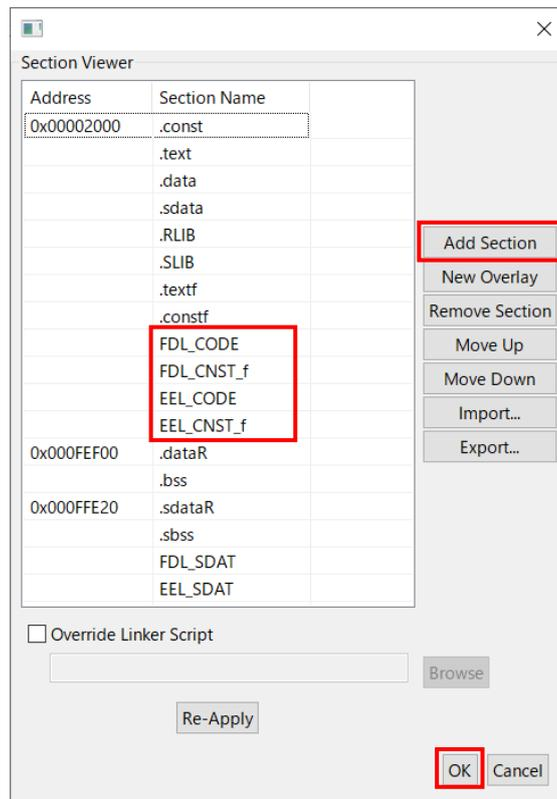
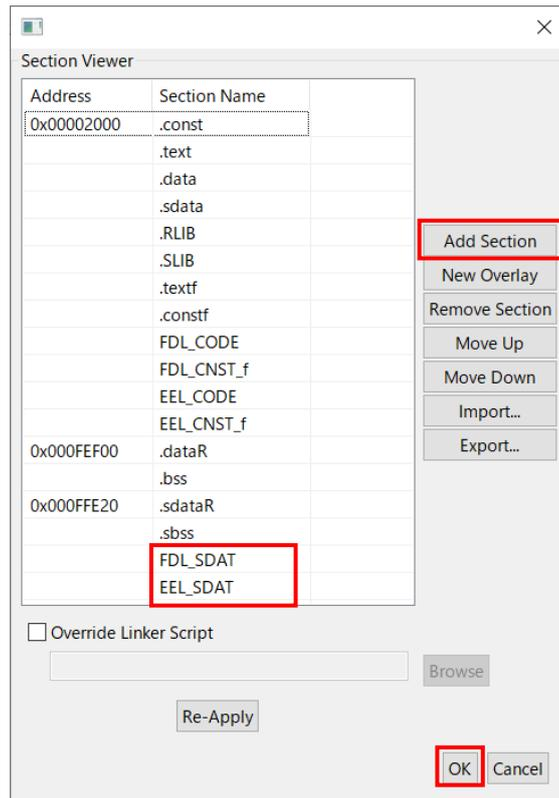

Figure 8-5. Example of Section Settings for EEPROM Emulation Library when Using e² studio (ROM Area)
Figure 8-6. Example of Section Settings for EEPROM Emulation Library when Using e² studio (RAM Area)
- Setting of the section items on e² studio inputs in the "Properties" window. Select "C/C++ Build" [Setting] - "Linker" [Section]. And set section items on the displayed screen. Remove a check mark to [Layout sections automatically(-auto_section_layout)]. Press the "... " button of the right-hand side which sections are displaying, and a "Section Viewer" screen is displayed and add the sections necessary for the EEPROM emulation library to the ROM area (as shown in Figure 8-5). (In this example, the FDL_CODE, FDL_CNST_f, EEL_CODE and EEL_CNST_f sections that are necessary for operation of the sample are added.) Also add a section of the EEPROM emulation library to the RAM area (as shown in Figure 8-6). (In this example, the FDL_SDAT and EEL_SDAT sections that are necessary for operation of the sample are added.)